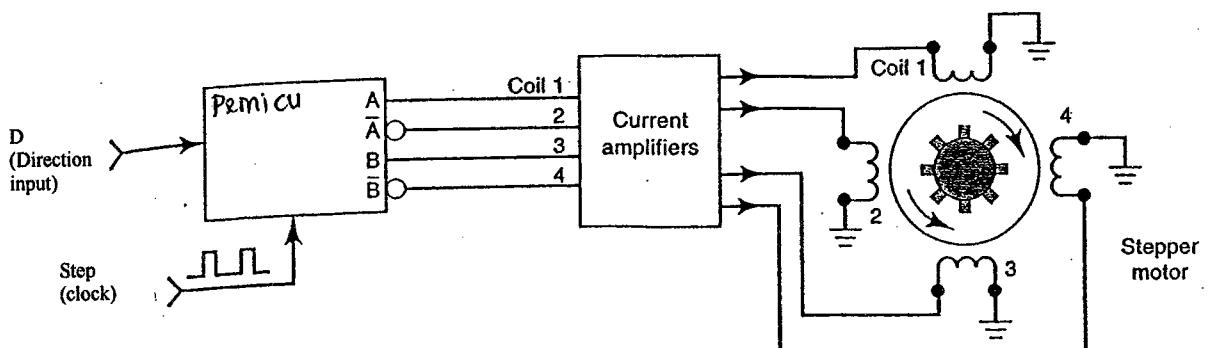

Figure 8
- (c) Stepper motor is controlled by 4 coils, coil 1, coil 2, coil 3 and coil 4 as shown in Figure 8. Coil 1 and coil 2 must always be in opposite states, that is when coil 1 is energized, coil 2 is not and vice versa. Likewise, coil 3 and 4 must always be in opposite states. The current amplifiers are needed because the flip-flop output cannot supply the amount of current that the coils require. Stepper motor can rotate either in clockwise or counter clockwise depends on direction input D. If D=0 is for clockwise rotation and D=1 is for counter clockwise rotation, design a circuit to drive the stepper motor using JK flip-flop. Include the state diagram, excitation table, Karnaugh map and block diagram.